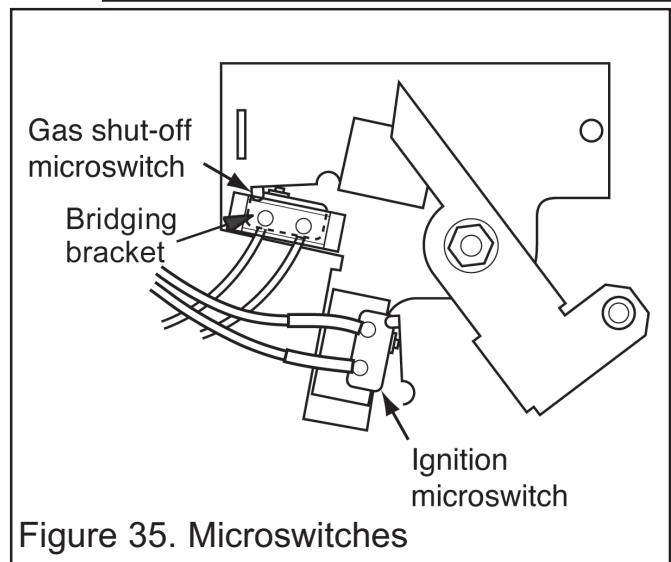

Figure 35. Microswitches
See figures 35 & 36.
(See figures 35 & 36).
3. Detach the bridging bracket, microswitch assembly by removing two screws (See figure 35).